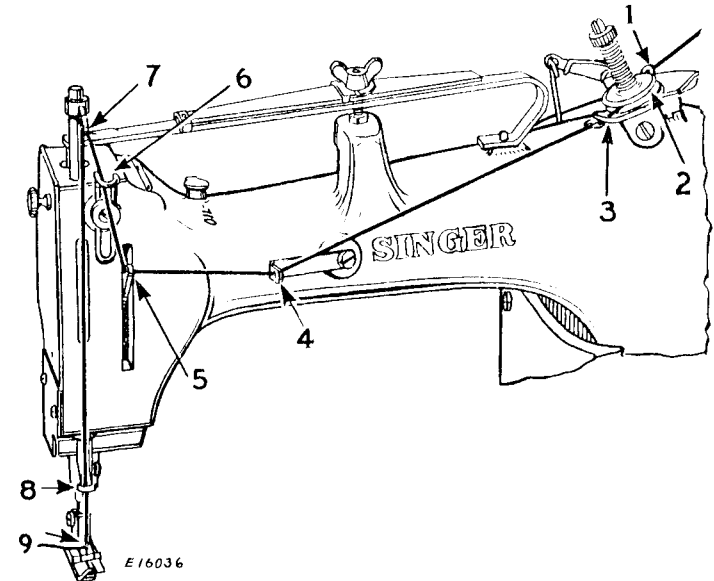

Fig. 4. Upper Threading
Pass the thread from the unwinder through the hole (1, Fig. 4) in the tension thread guide and between the tension discs (2) at the top
When the needle bar is at its lowest point, the needle thread take-up (7, Fig. 4) should be set so as to have about 1/16 inch clearance from the upper needle bar bushing.